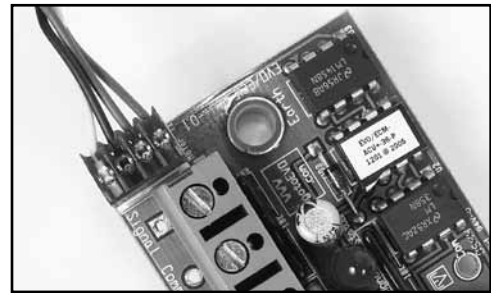

Figure 3: Control Wire Connector (Board view)
10. Touch the black lead to the common (green) wire on the 4-pin motor connector (see Figure 3).
11. Touch the red lead to the speed (red) wire on the 4-pin motor connector (see Figure 3).